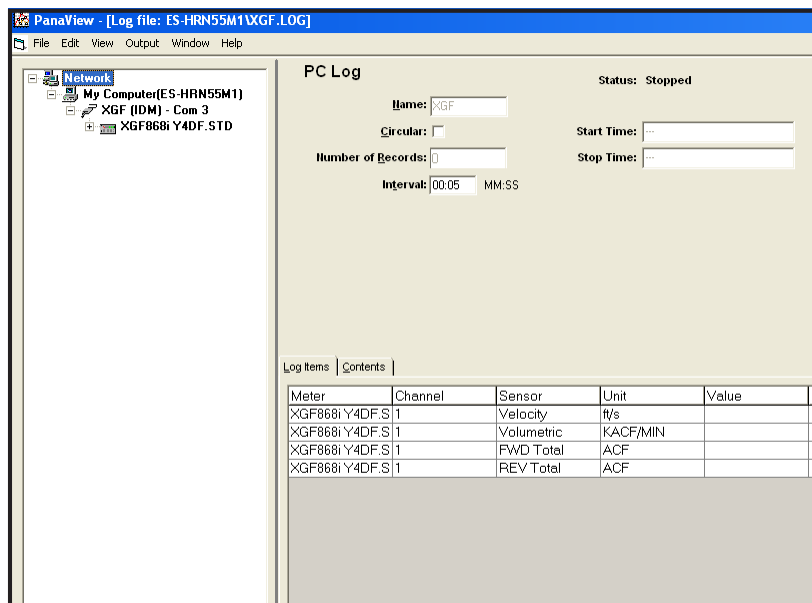

Figure 18: PC Log Window
- At the resulting *PC Log* window shown in *Figure 18* below, place a check mark in the text box to create a *circular log*, or leave this box empty to create a linear log.
- Enter a sampling *interval* in the text box shown in *Figure 18* above.